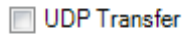

Figure 26. UDP Off/Plot On Mode
- UDP off/plot on, where the **UDP Transfer** checkbox is not selected (see Figure 26).